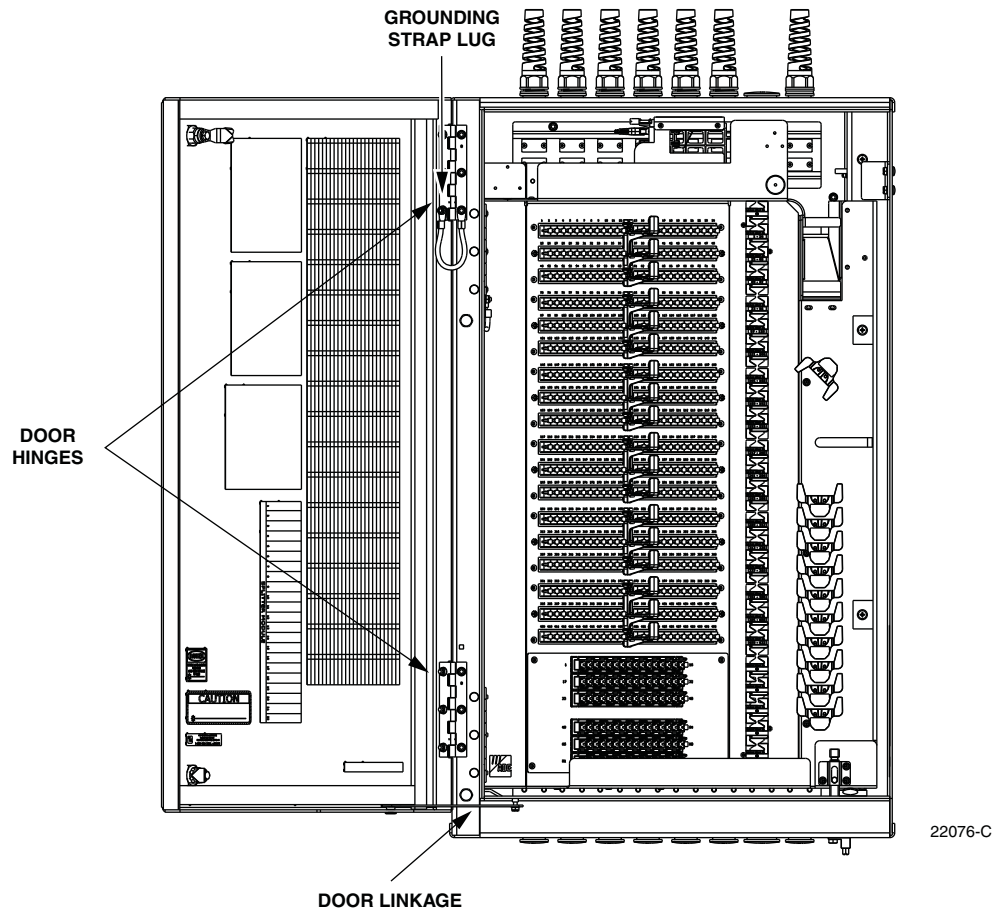

Figure 61. Door Replacement
1. Open the cabinet door and lock it in the open position as shown in Figure 61.
- ▶ **Note:** Be sure to re-secure the grounding strap lug (see Figure 61) to the door when securing the hinges to the door.